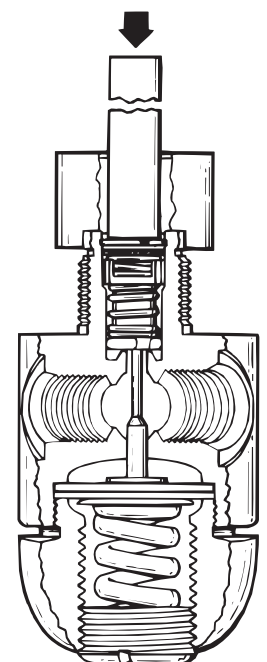

Figure 7
14. While holding the block guide, with the retaining ring centered over the hole and on top of the washer and filter, apply sufficient pressure downward against the retaining ring, using a 1/2-inch flat-end wood dowel (see Figure 7), to force the retaining ring through the guide until it fully "locks" in its own groove in the inlet boss. At this point, the seat spring, spring block, spring, and sintered filter should be correctly positioned and "locked" in the boss. Check this positioning carefully before proceeding.